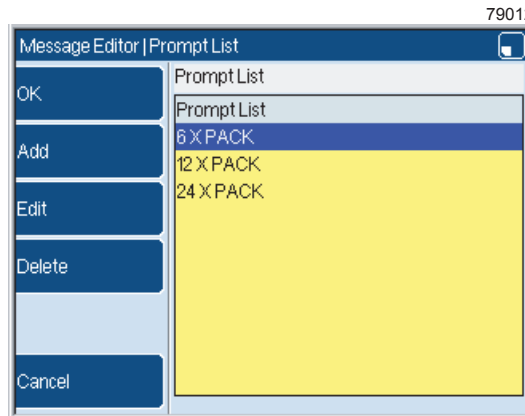

Figure 14. Prompt List
- (c) Repeat steps **6 (a)** and **(b)** twice, to add the items "12 X PACK" and "24 X PACK", as shown in Figure 14.